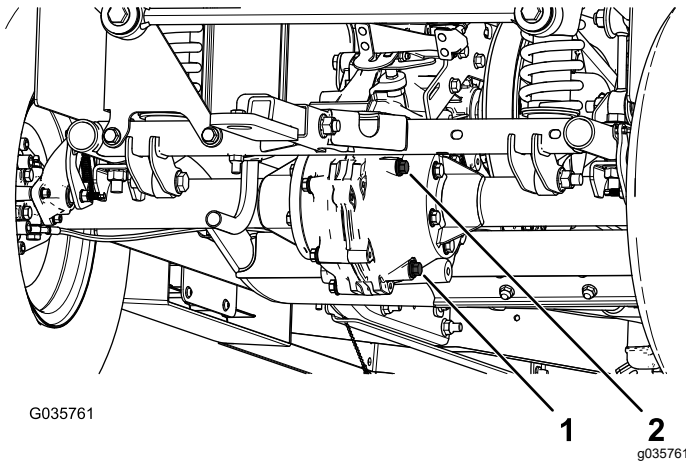

Figure 62
4. Remove the fill plug on the transaxle (Figure 62).
5. If the fluid level is low, remove the fill plug and add the specified fluid until it runs out of the hole (Figure 62).
1. Align a drain pan under the drain plug (Figure 62).
2. Remove the fill plug and the seal (Figure 62).
3. Remove the drain plug and the seal, and allow the fluid to drain completely (Figure 62).